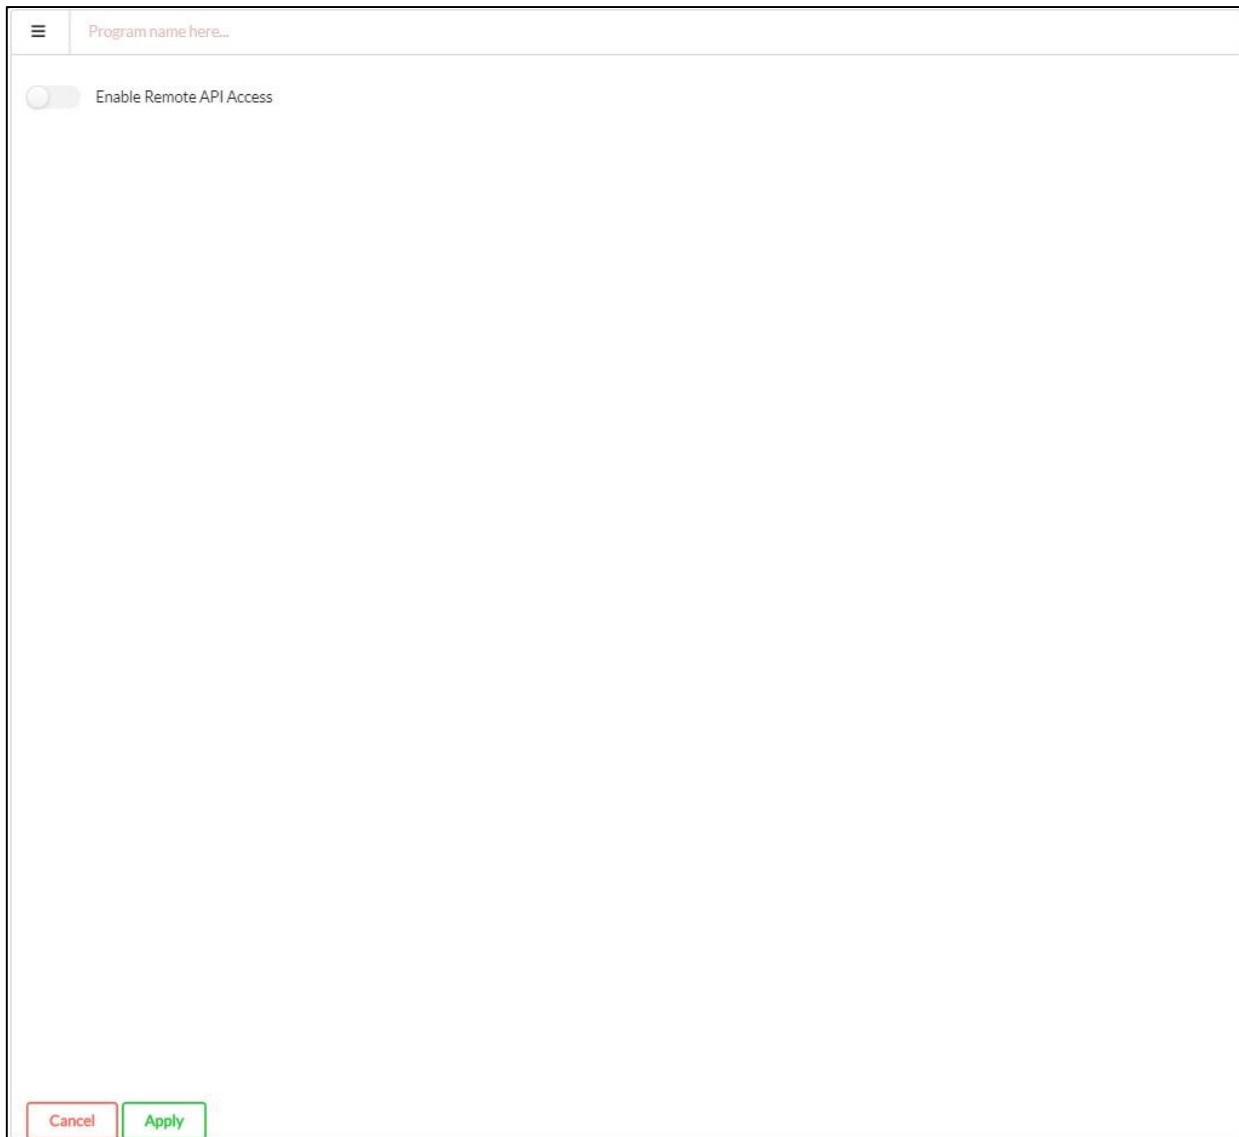

Figure 6-1: Configure screen (with the API toggle in the disabled state)
2. Click the **Main Menu** button and select **Configure**. PULSE DESK opens the **Configure screen** as shown in **Figure 6-1**.
2. In the displayed **Configure screen** (see **Figure 6-1**), switch the **Enable Remote API access** toggle to the disable state.